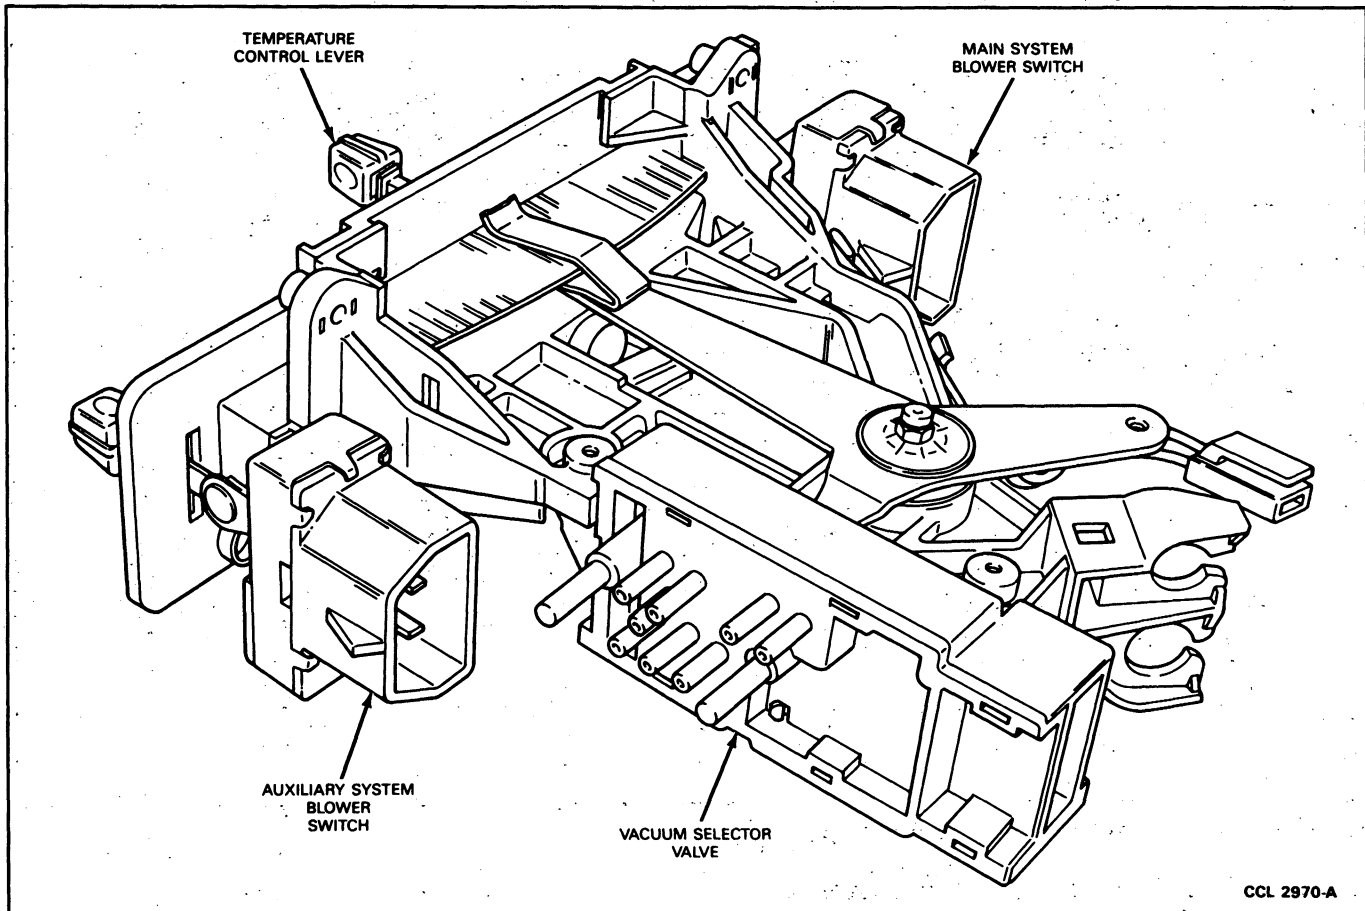

FIG. 16 Control Assembly
2. Remove four screws retaining control assembly to mounting bracket (Fig. 16).
1. Remove knob from blower switch (Fig. 16).
6. Remove two screws retaining vacuum selector valve to control assembly (Fig. 16).